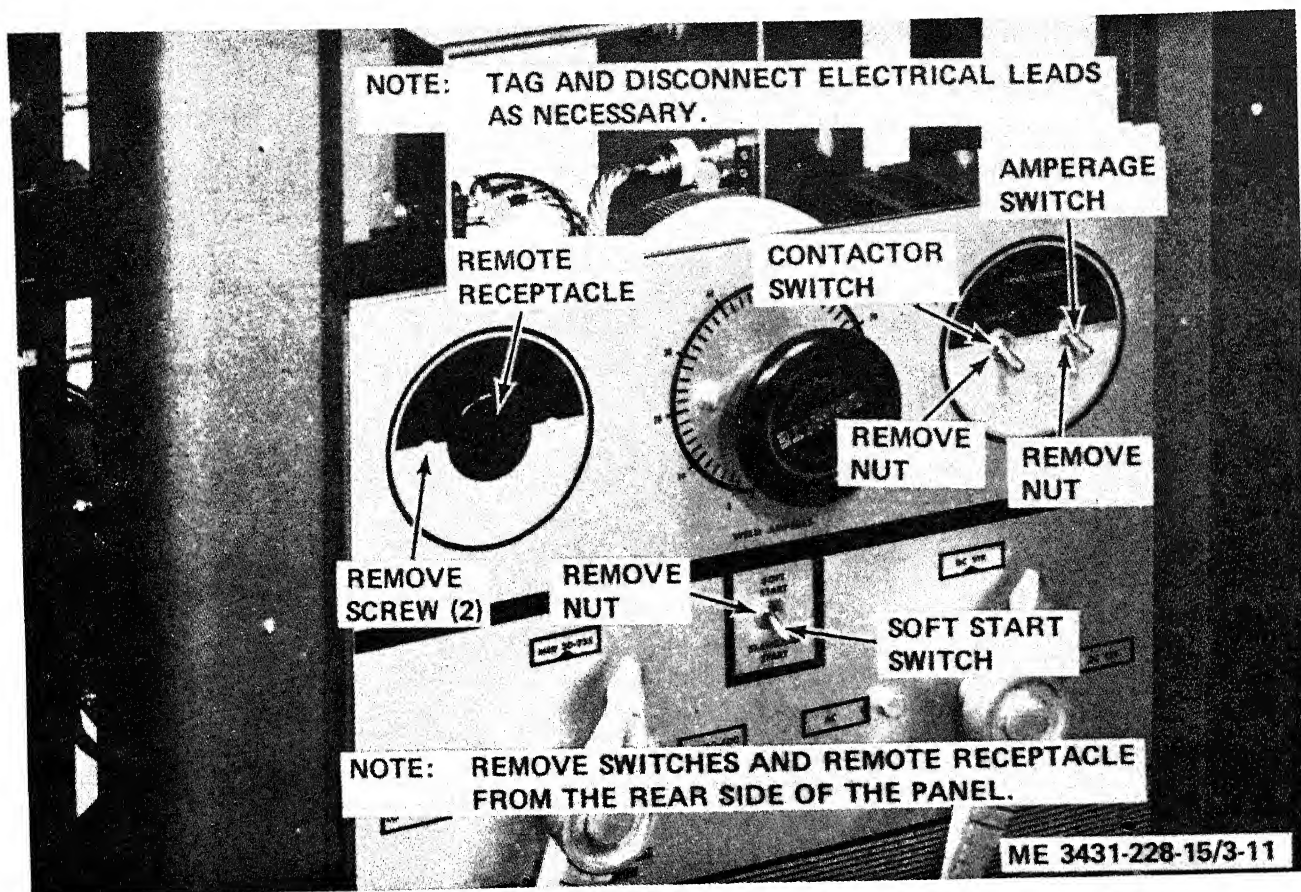

Figure 3-11. Remote receptacle, amperage switch, and contactor switch, removal and installation.
- (1) Disconnect ac power from the welding machine.
- (2) Remove the timer and high frequency drawer (para 3-19).
- (3) Refer to figure 3-11 and remove the remote
- (1) Refer to figure 3-11 and install the remote receptacle.
- (2) Install the timer and high frequency drawer (para 3-19).
- (3) Refer to figure 3-11 and remove the switch.
- (1) Refer to figure 3-11 and install the switch.